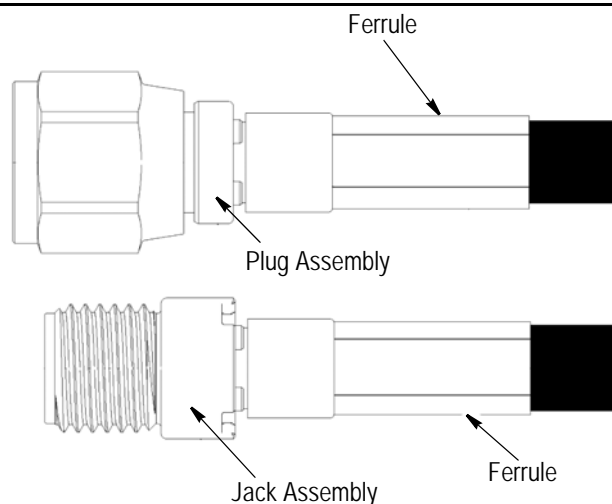

Figure 5
3. Slide the ferrule over the cable braid making sure the braid is positioned over the connector barrel until it rests against the connector housing as shown in Figure 5.